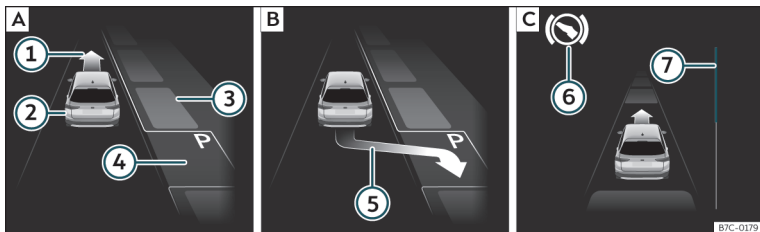
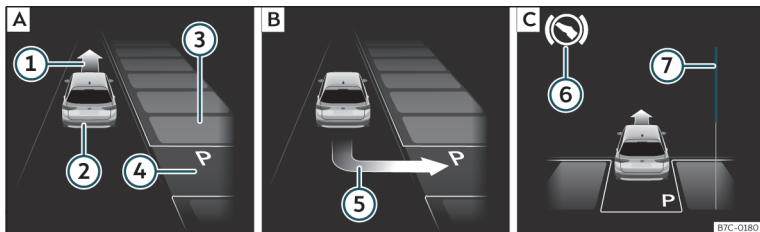

Fig. 229 On the instrument panel display: perpendicular parking. **[A]** Finding a parking space. **[B]** Parking position. **[C]** Manoeuvring.
Fig. 230 On the instrument panel display: parallel parking. **[A]** Finding a parking space. **[B]** Parking position. **[C]** Manoeuvring.
Key to **Fig. 229** and **Fig. 230**:
>>> **Fig. 229** ⑦ and >>> **Fig. 230** ⑦ on the screen of the instrument panel displays the relative distance to be covered. The greater the distance, the fuller the progress bar. When driving forward, the content of the progress bar decreases upwards, and when reversing, it decreases downwards.
2.	Look at the display on the instrument panel to see if the space has been detected as "appropriate" and if the correct position for parking has been reached »» Fig. 229 [B] or »» Fig. 230 [B] . The space is considered "appropriate" if the display on the instrument panel shows the message to park (5) .
6.	Reverse until the ParkPilot continuous signal is heard. OR: reverse until the instrument panel displays the message to go forwards »» Fig. 229 [C] or »» Fig. 230 [C] . OR: reverse until the instrument panel displays the message Park Assist finished . The progress bar (7) indicates the distance to cover »» page 283.
7.	Press down the brake pedal until the Park Assist system has finished turning the steering wheel. OR: until the (S) symbol on the instrument panel display switches off.
9.	Go forward until the ParkPilot continuous signal is heard. OR: go forward until the instrument panel display shows the message to reverse. The Park Assist system steers the vehicle forward and back until it centres it in the space »» Fig. 229 [C] or »» Fig. 230 [C] .